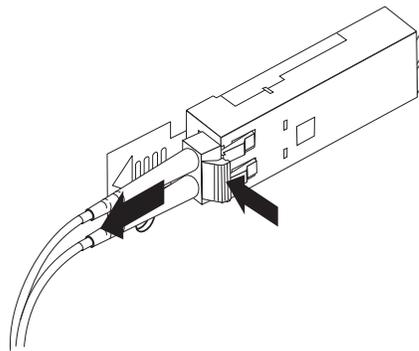

Figure 28. Removing the LC-LC fibre-channel cable
2. While pressing down the cable lever, carefully pull on the connector to remove the cable from the SFP module, as shown in Figure 28.